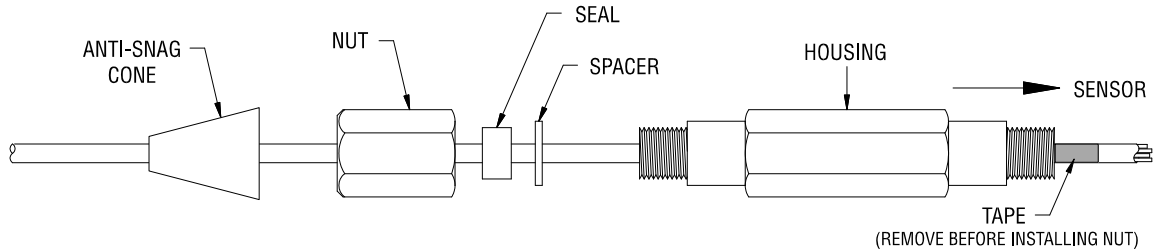

FIGURE 7
Step 6 Slide the cable back through the housing until the tape marker contacts the end of the housing. (See Figure 7). If difficulty is encountered trying to slide the splice through the housing, a small amount of lubricant (like petroleum jelly) may be applied to the high spots. Remove the tape marker and slide the nut seal and spacers into position on both ends of the housing. Make sure the cable does not slip in relation to the housing.